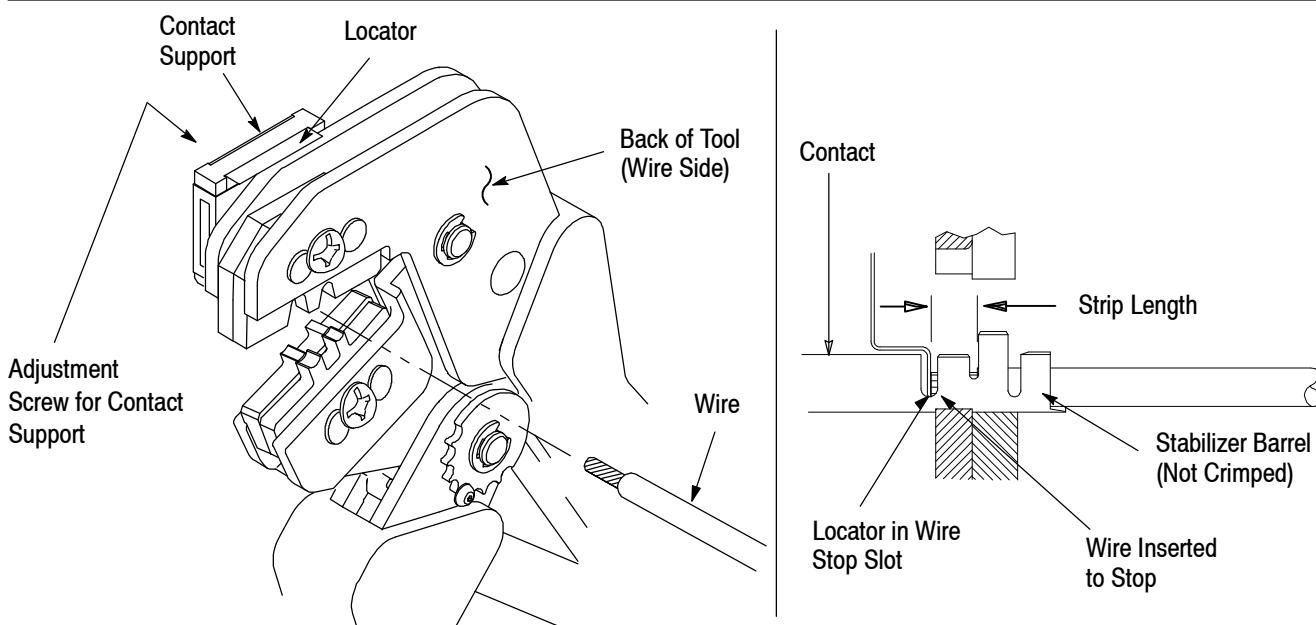

Figure 3
4. CONTACT SUPPORT ADJUSTMENT (Figure 3)
Refer to the table in Figure 1 and select wire of the specified size and insulation diameter. Strip the wire to the length indicated in Figure 1, taking care not to nick or cut wire strands. Select an applicable contact and identify the appropriate crimp section according to the wire size markings on the tool. Refer to Figure 3 and proceed as follows:
3. Position the contact so that the mating end of the contact is on the locator side of the tool, and so that the open "U" of the wire and insulation barrels face the top of the tool. Place the contact up into the nest so that the movable locator drops into the slot in the contact. Refer to Figure 3. Butt the front end of the wire barrel against the movable locator.
5. Insert stripped wire into contact insulation and wire barrels until it is butted against the wire stop, as shown in Figure 3.
The crimped contact may stick in the crimping area, but the contact can be easily removed by pushing downward on the top of the locator (see Figure 3).
- Revision to figure 3 to illustrate the contact stabilizer; and